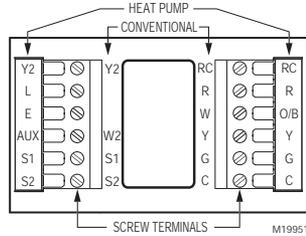

Fig. 3. Selecting terminal identifications for system type.
1. Select set of terminal identifications (Table 2) that corresponds with system type (conventional or heat pump) in Fig. 3.